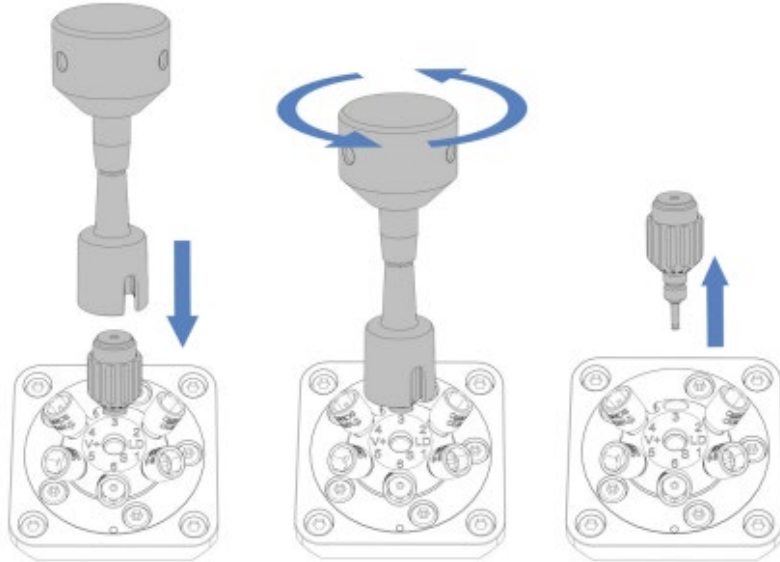

Figure 46: Removing the needle seat with the torque screwdriver
- Use the torque screwdriver tool with the needle seat bit attachment (Figure 46) to remove the needle seat (F).